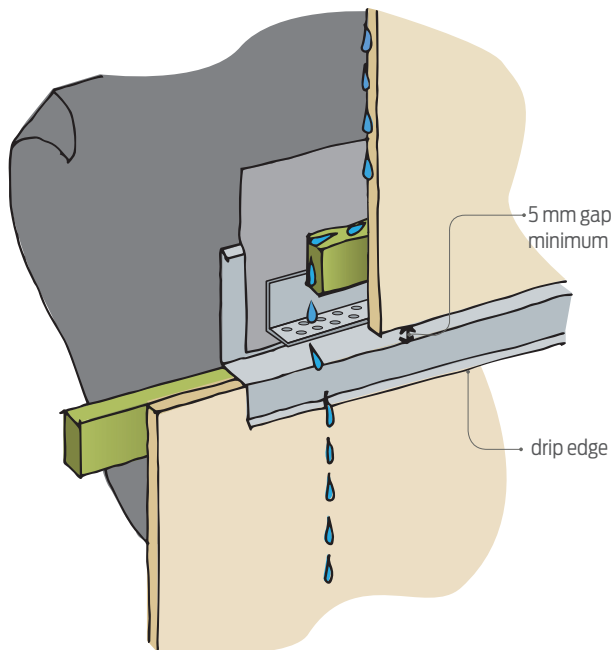

Figure 2: Water held by surface tension must be able to exit via the 5 mm drainage gap over a flashing.
- Surface tension will hold water droplets on the back of a cladding, and they then migrate down under gravity to drain at a lapped cladding joint (see Figure 3 on page 42), a flashing (see Figure 2) or the bottom.